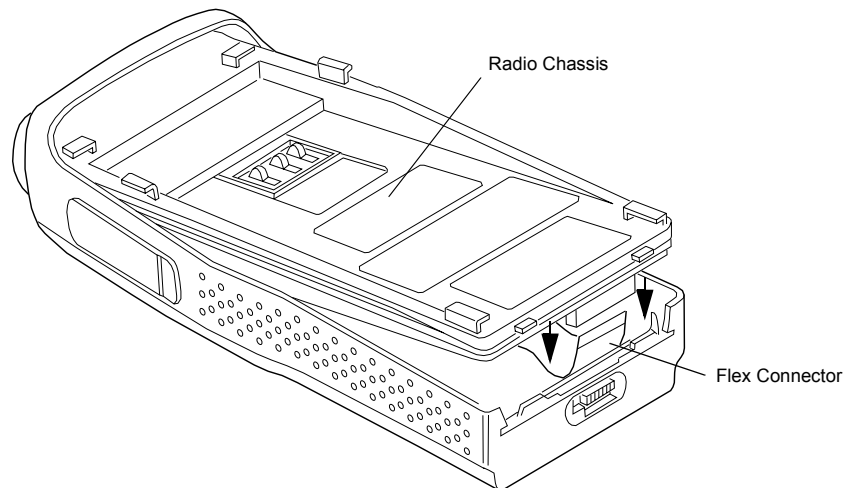

Figure 6-4. Keyboard Flex Connection
6. Pull the chassis assembly out of the front cover only until the volume and channel selectors shaft just clear the top of the case. (Figure 6-4).